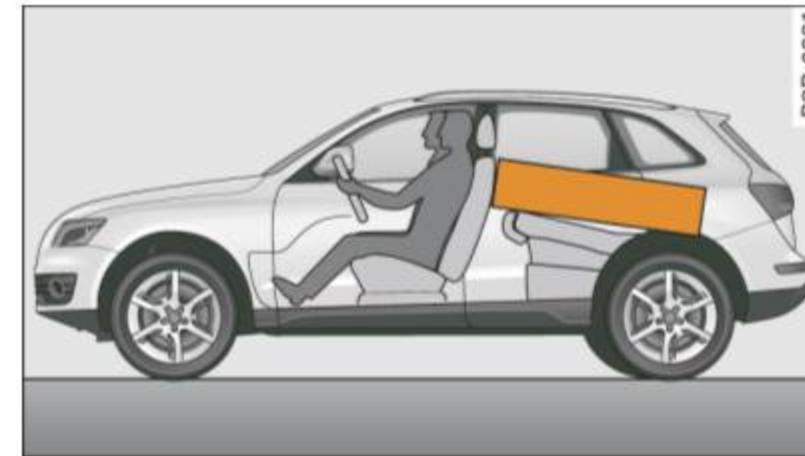

Fig. 159 Safe load positioning: place heavy objects as low and as far forward as possible.
- Always place and properly secure heavy items in the luggage compartment as low and as far forward as possible ⇒ fig. 159.